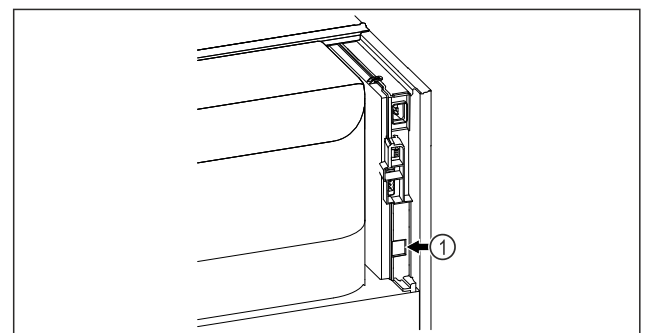

Fig. 144
- ❑ SmartModule Fig. 144 (1) is in use.